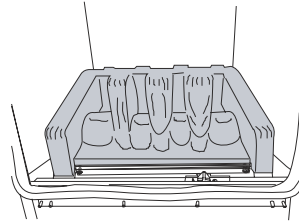

Figure 19 – Rear Ceramic
1. Position the rear burner ceramic in position, behind the rear burner flange, as shown in **Figure 19**.